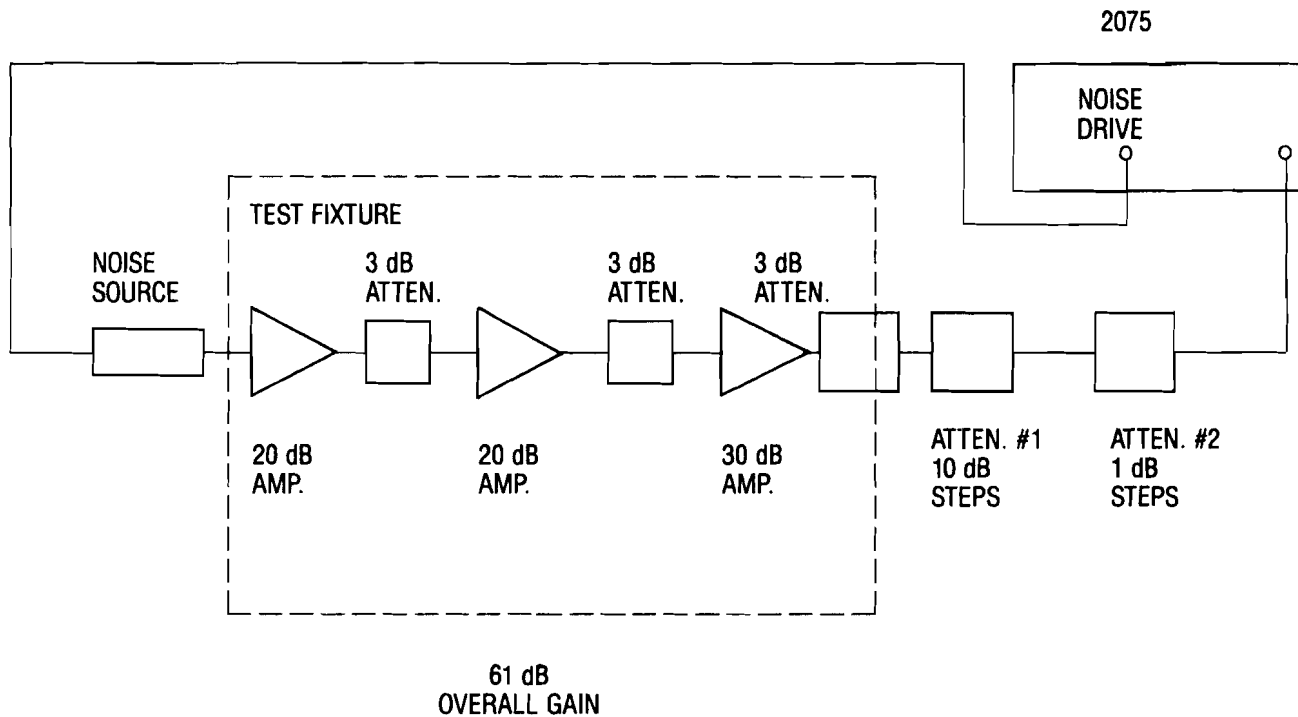

Figure 3-19. RF OVERLOAD DETECTOR SETUP
8. Insert the amplifiers and attenuators into the setup as shown in Figure 3-19.